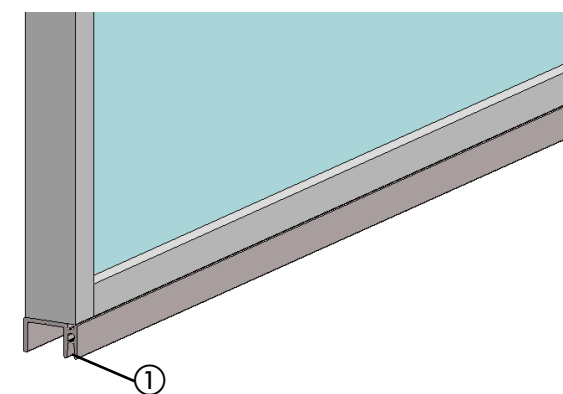

fig. 11
4. Cut the lower guide profile to the same length as the leaf and secure with adequate screws on the lower part (fig.11).
5. If specified, insert the brush in the seat of the sliding profile Fig. 11 ref. ①.